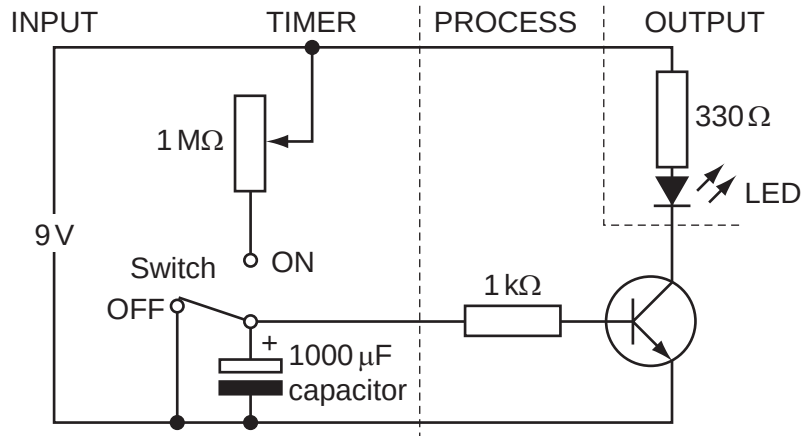

Fig. 2
- 9 Fig. 2 shows a timer circuit.
- (c) Name the type of capacitor shown in Fig. 2.